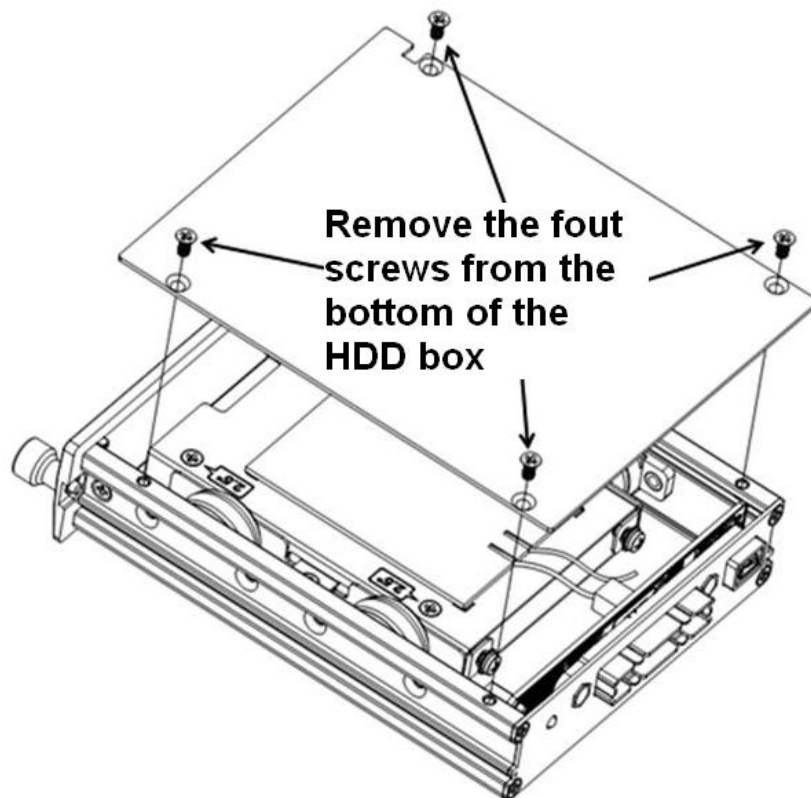

Figure 3-2
2) Please loosen the screws of the bottom board of the HDD box and then remove the bottom board. Now you can see an interface shown as in Figure 3-2.